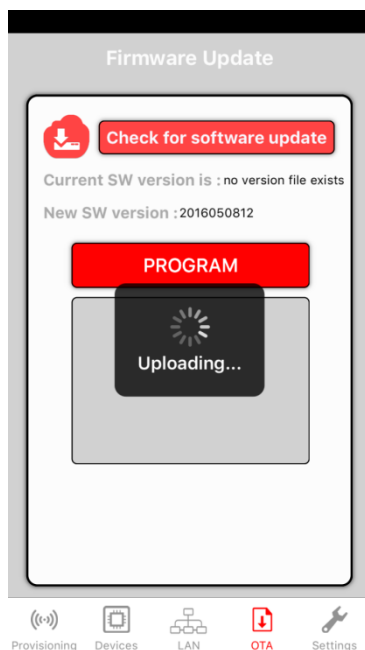
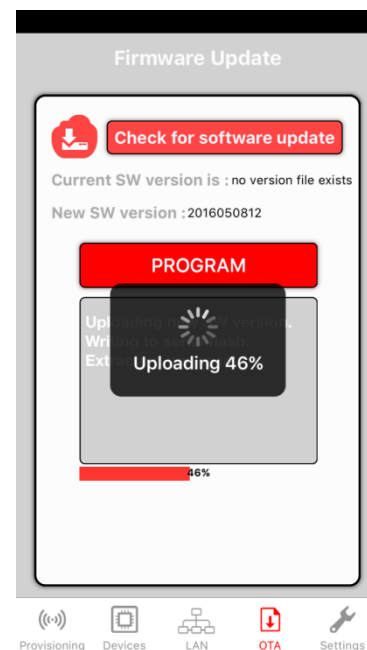

Figure 20. Mobile App OTA Started
Figure 21. Mobile App OTA in Progress
2. If a new software version has been downloaded, start the software update by clicking the Program button, as shown in Figure 20 and Figure 21.